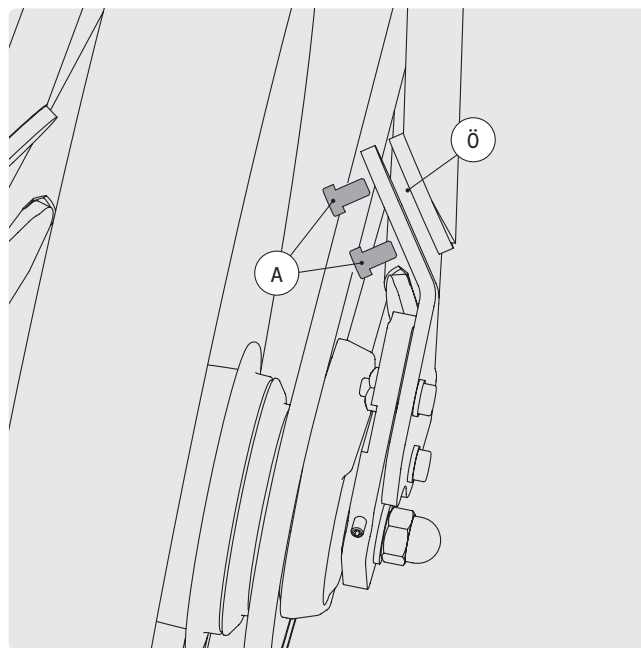

FIG. 46
- 1 Loosen both screws A of the frame lock (Fig. 46).